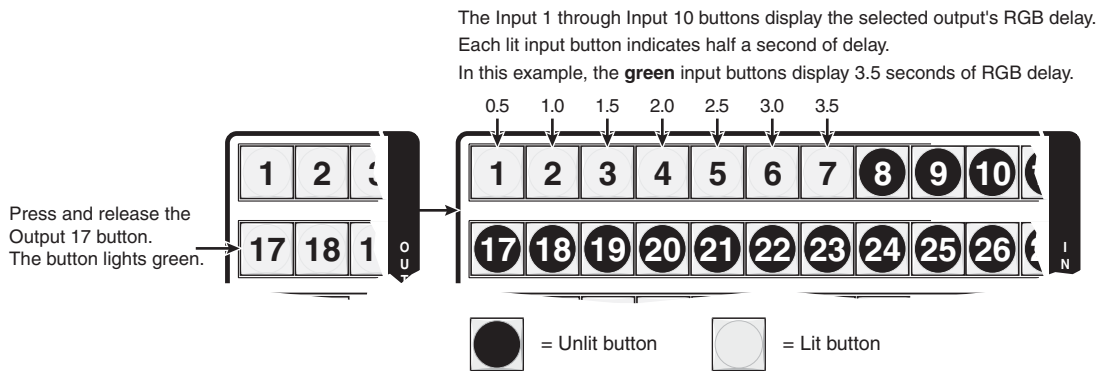

Figure 3-37 — Select an output
- Press and release the output 17 button (figure 3-37).